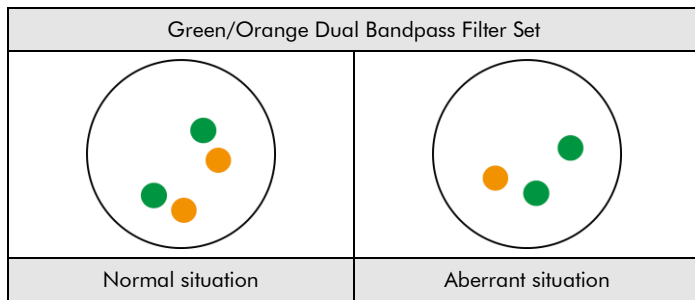

Fig. 2: Expected results in normal and aberrant nuclei
**Normal situation:** In interphases of normal cells or cells without a deletion involving the EGR1 gene region, two green and two orange signals appear (see Fig. 2).
**Aberrant situation:** In a cell with deletion affecting the EGR1 gene region, a reduced number of orange signals will be observed. Deletions affecting only parts of the EGR1 gene region might result in a normal signal pattern with orange signals of reduced size (see Fig. 2).